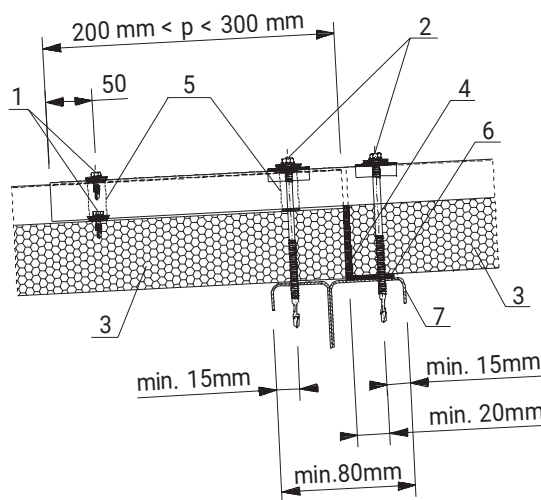

fig. 4
**d.** In the case of roof panels with end laps, the insulation should be cut back by:  $200\text{ mm} < p < 300\text{ mm}$  (Fig.4, p - cut back width).
80mm for end lap detail (see Fig.4)